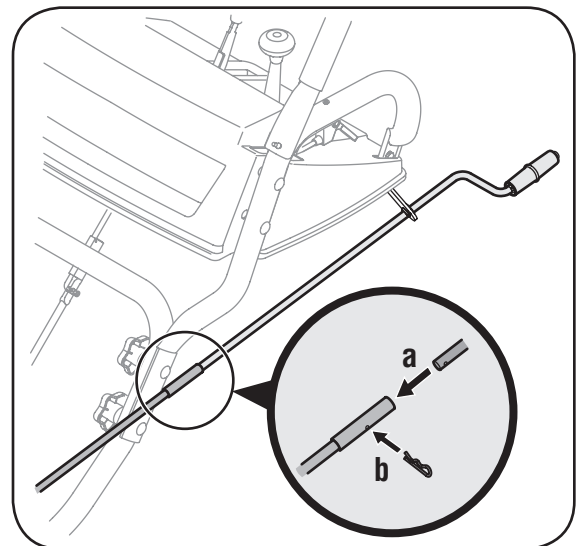

Figure 3-4
b. Align the hole in the upper chute crank with the hole in the sleeve (If necessary, use a pair of pliers to assist in aligning holes). Insert the internal cotter pin through the holes to secure the chute crank. See Figure 3-4.